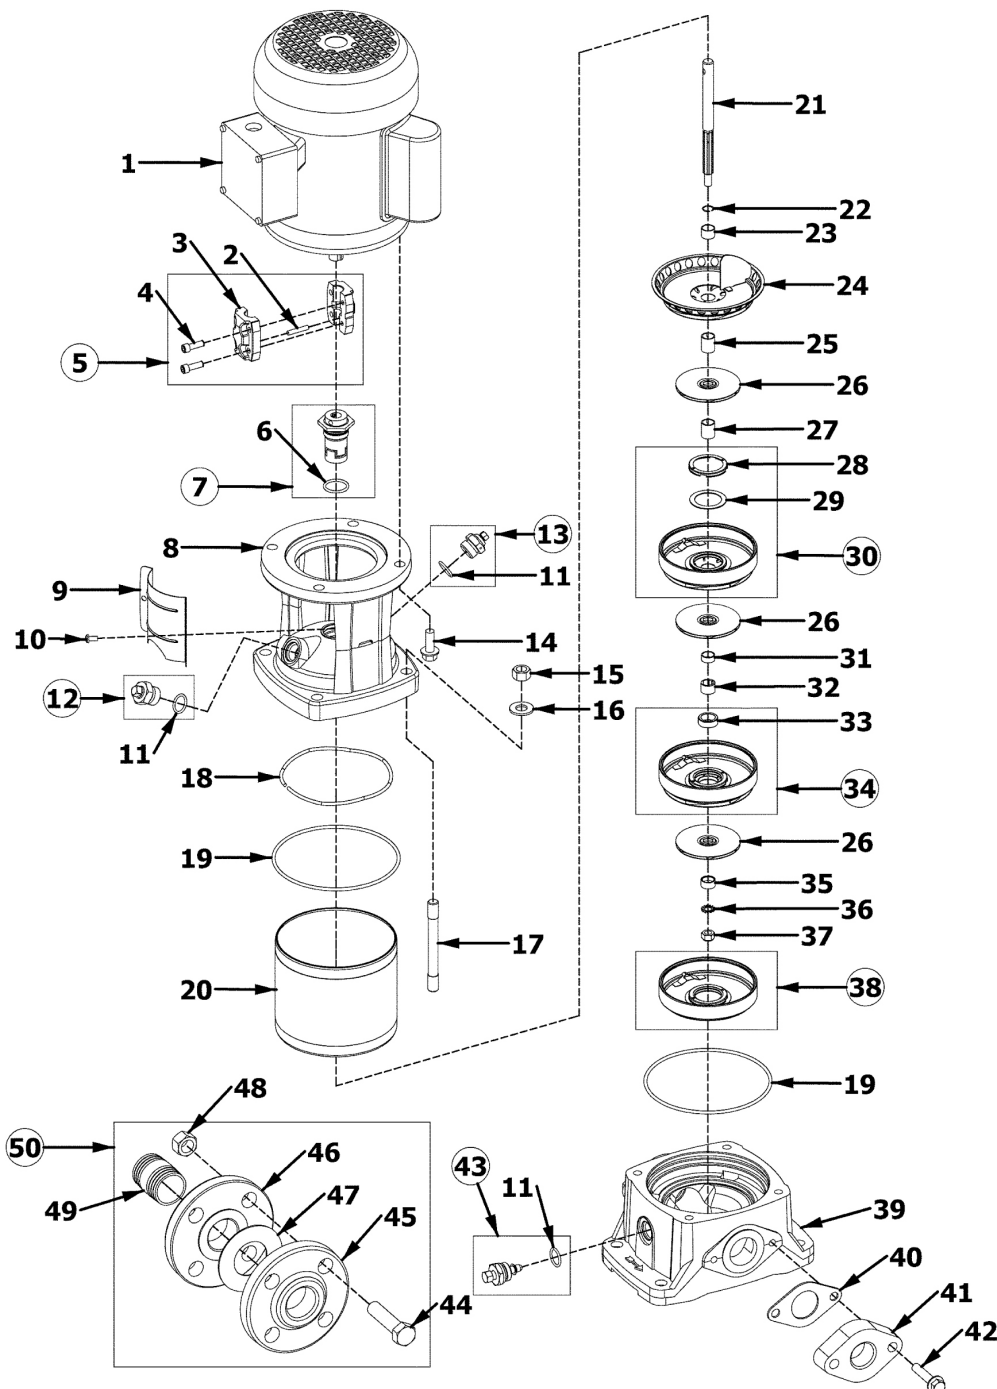

Figure 6 - Repair Parts Illustrations
Refer to Figure 6
5. Reassemble Impellers (Ref. No. 26), Crossovers (Ref. No. 34), etc. onto pump Shaft (Ref. No. 21) in same order they were removed (see Figure 6 & 7) and torque Hex Nut w/Nyloc (Ref. No. 37) to 13 ft-lbs [18 N-m]